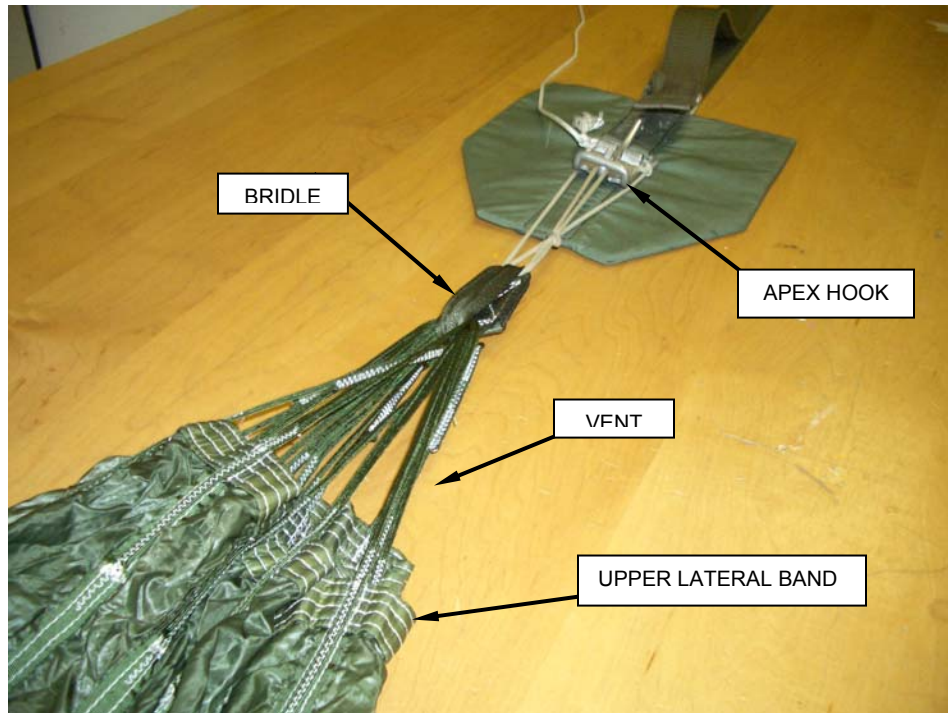

Figure 1. Attaching Canopy to Packing Table Apex Hook.
2. Lay the canopy assembly lengthwise on the packing table (Figure 1), and attach the bridle loop to the packing table apex hook.